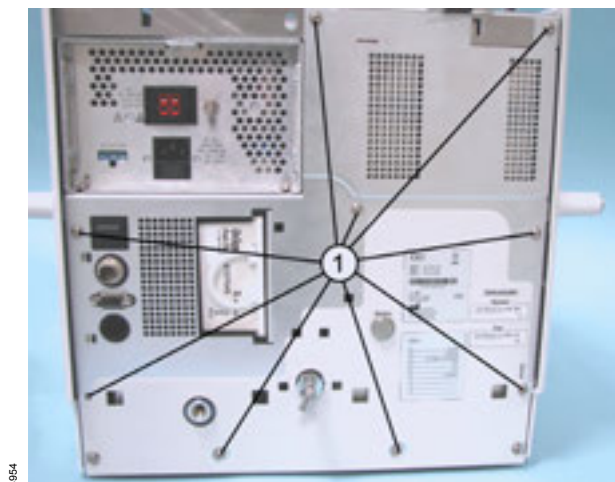

Fig. 36 View of device rear: screws
- 5 Remove the screws (9x) (Fig. 36/1).
- 1** Fit the rear panel to the Savina 300 using the screws (Fig. 36/1) tightened with a torque of 1.8 Nm +/-0.2 Nm.